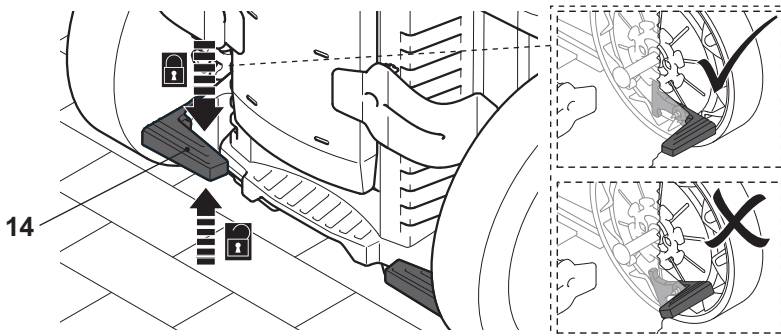

Fig. 22
1. Step down the brake pedal (14) to lock the rear wheel. Slightly move the wheel to ensure the brake lever is engaged properly. (Fig. 22).